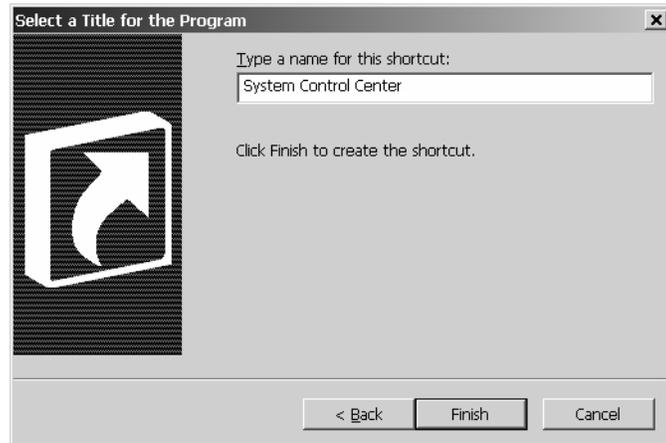

Figure 80: Entering the name of the shortcut
5. Type **System Control Center** in the field on the Select a Title for the Program window as shown in Figure 80.